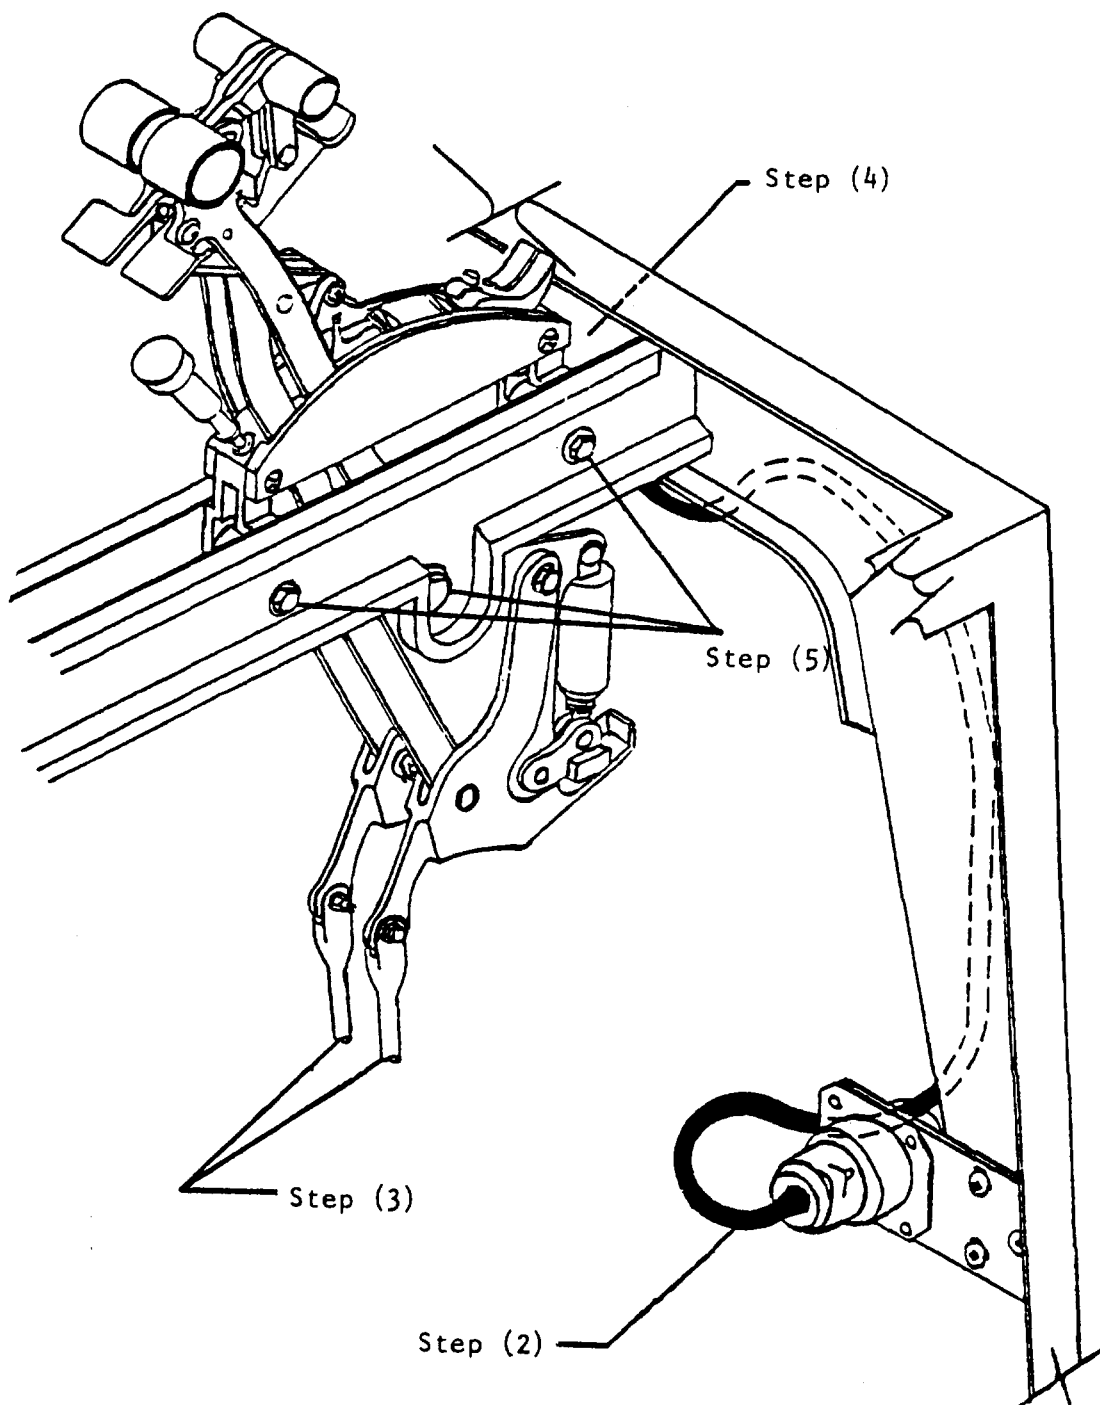

Figure 201 - Cockpit Control Removal
2. Removal/Installation. (See Figure 201.)
- (1) Prior to installation of throttle assembly, accomplish pre-installation adjustments per Paragraph 4.B. of 78-30-01. (See Figure 201)
- (2) Remove plunger pre-travel inspection tag (if attached).
- (3) Spread longitudinal frame members of pedestal sufficiently to slide throttle assembly into the pedestal and secure with attaching hardware, (See Figure 201).
- (4) Re-install attaching hardware securing longitudinal frame to the instrument panel.
- (5) Re-connect the push pull rods to the engine throttle actuation cranks.
- (6) Route and secure throttle electrical harness and reconnect P1 plug.
- (7) Leave access panels off until all required adjustments are made during functional checkout of throttle system per Section 78-30-00.